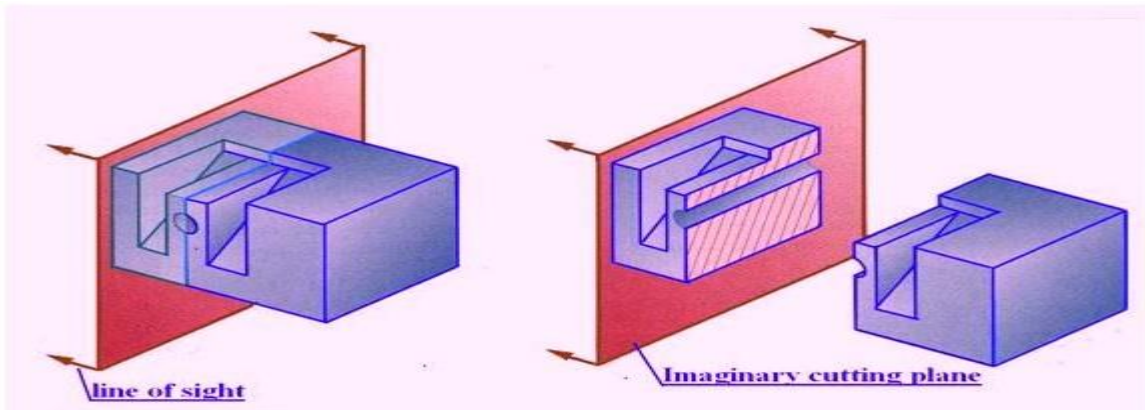

Figure 1. Illustrates a full Section view
- (a) **Full section view**, where the section plane goes completely through the object. Example shown in figure 1.